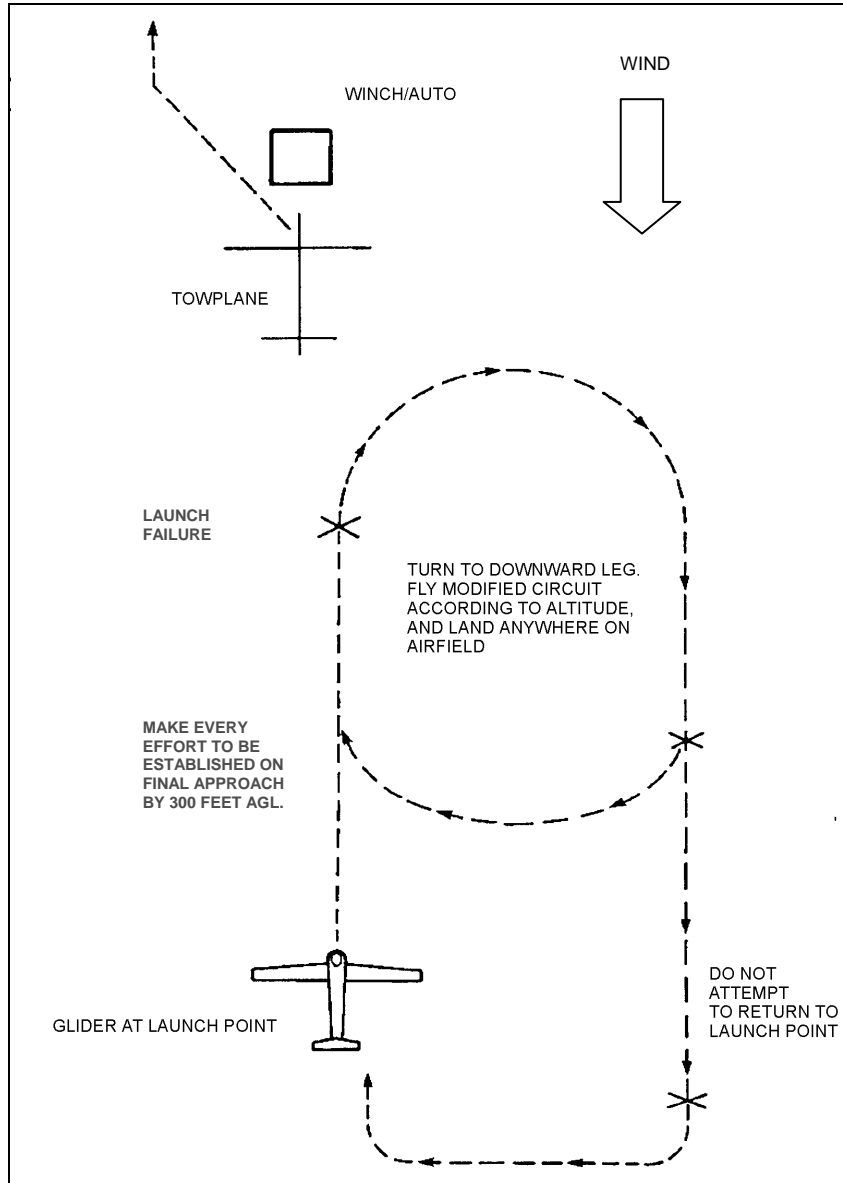

Figure 2-7-4 Modified Circuit
- modified circuit (see Fig. 2-7-4);